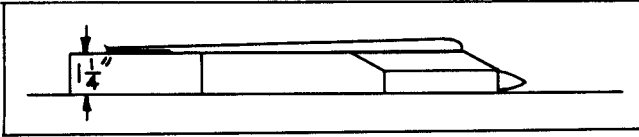

Figure 4
**Step 7.** If the assembly of step 5 is dry, attach pylon-tube assembly at thick end being careful to assure that body tube and fuselage assembly (F-1 and F-2) are parallel. This may be done by raising the tail to a height of about  $1\frac{1}{4}$ " by placing it on a book or a box as shown in Fig. 4.